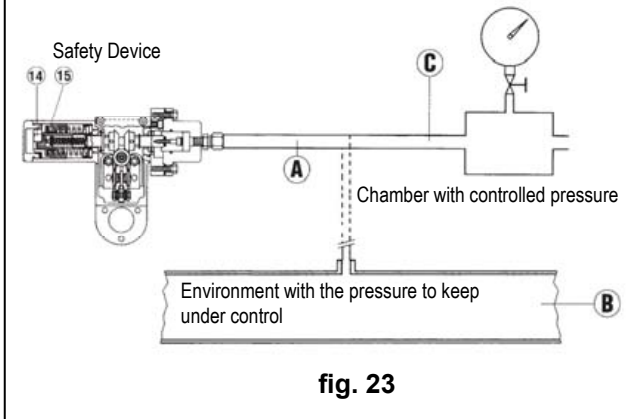

fig. 23
- B) On devices without the "push" valve (fig. 23) we recommend connecting the control head separately to a controlled auxiliary pressure and repeat the operations described above.